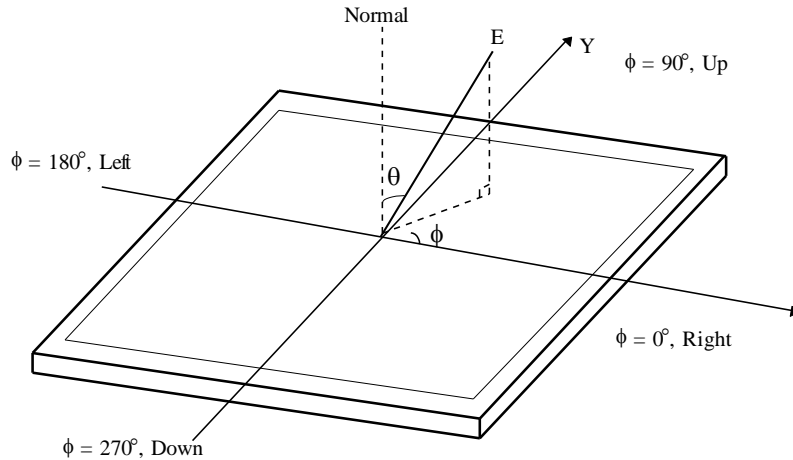

FIG.4-4 Viewing Angle
- 5) **Viewing Angle** is the angle at which the contrast ratio is greater than 10. The angles are determined for the horizontal or x axis and the vertical or y axis with respect to the z axis which is normal to the LCD surface. For more information see FIG.4-4. **(By PR880)**